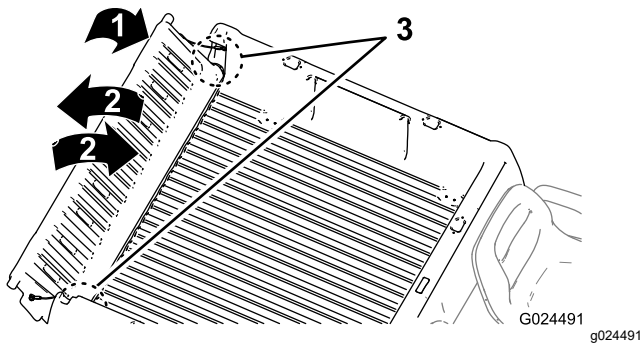

Figure 15
2. Rotate the tailgate to approximately the 45° position (Figure 15).
3. Use a short, shaking motion to rotate the tailgate back and forth several times (Figure 15).